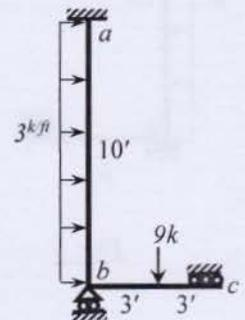

Fig. 5
- Use the Energy Method to calculate the plastic moment ( $M_p$ ) capacity of all members to form beam mechanism and side-sway mechanism in the frame *abc* loaded as shown in Fig. 5.